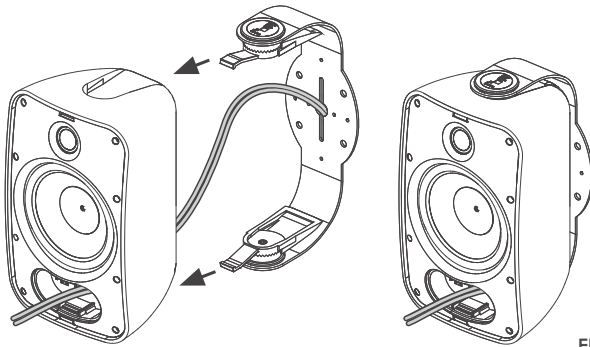

FIGURE 8:
5. Slide the speaker onto the bracket until the locks snap into place. Pull enough wire through the front of the speaker to allow connection to the terminals (see figure 8).